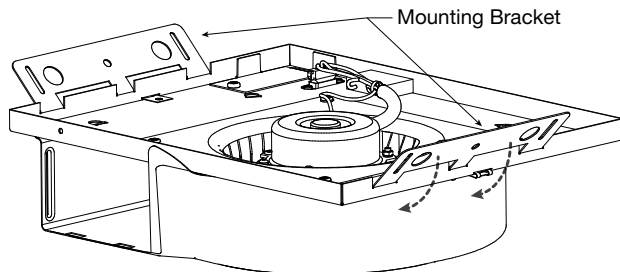

Figure 2
3. Fold down mounting brackets so they are perpendicular to the fan housing at a 90 degree angle as shown in Figure 2.